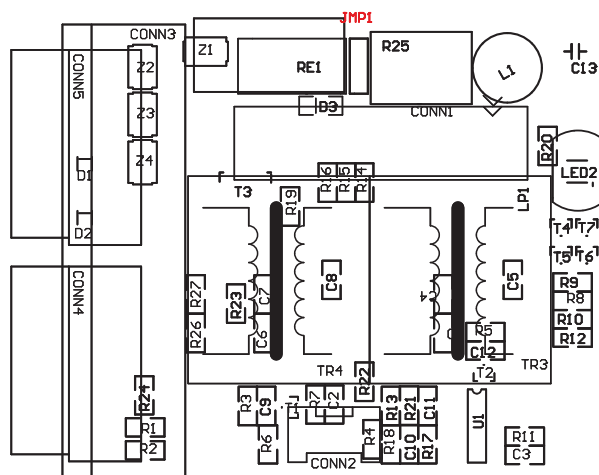
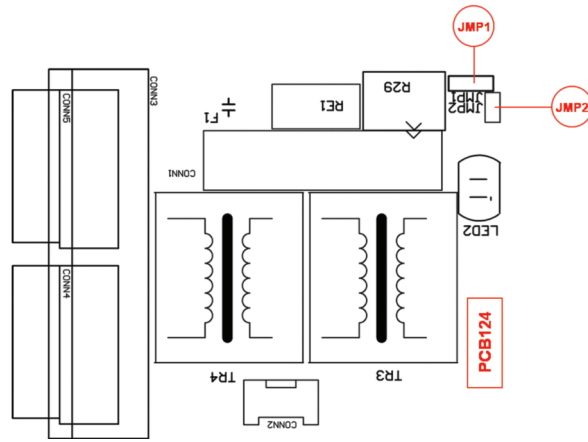

fig.16 - Input board PCB960 with location of jumper JMP1
fig.17 - Input board PCB124 with location of jumpers JMP1 and JMP2
Impedance switching is supported for input boards PCB960 (see fig 16) and PCB124 (see fig 17). Configuration details of the impedance switching are depending on the input board type as described hereafter.
- Low impedance if the device status is OK, High impedance if the device has a failure or is not powered. This is the factory default configuration, the jumper is placed on the contact pins of JMP1 that are closest to CONN1 (furthest away from the edge of the board, see fig 16).
- Low impedance if the device status is OK, High impedance if the device has a failure or is not powered. This is the factory default configuration, the jumper is placed on both contact pins of JMP2 (see fig 17).
Intellivox units equipped with input board PCB124 (see fig.17) support configuration of the internal Failure Relay for either volt-free or impedance-sensing (10k / 20k Ω) operation.
In volt-free operation, COM is connected to NC; a failure condition causes COM to be connected to NO. This is the factory default configuration, the jumper is placed on the contact pins of JMP1 that are closest to R29 (furthest away from the edge of the board, see fig 17).